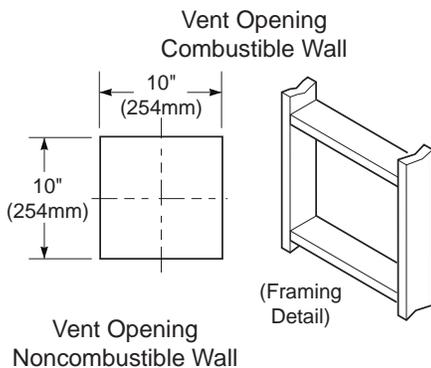
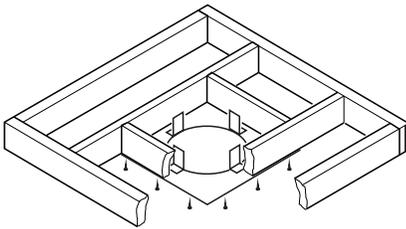

Figure 22 - Vent Opening Requirements
Figure 31 - Installing Firestop
For two-story applications, firestops are required at each floor level. If an offset is needed in the attic, additional pipe and elbows will be required (see Figure 31, page 15).
- Attach vent pipe assembly to the burner system. Set stove in front of its permanent location to insure minimum clearances. Mark the wall for a 10" square hole (for noncombustible material such as masonry block or concrete, a 7 1/2" diameter hole is acceptable). See Figure 22. The center of the hole should line up with the center-line of the horizontal rigid vent pipe. Cut a 10"x10" (254mm x 254mm) square hole through combustible exterior wall (7 1/2" [190mm] diameter hole if noncombustible). Frame as necessary (see Figure 22).
- Cut a 10" square hole in the ceiling using the locating hole as a center point. The opening should be framed to 10"x10" (254mm x 254mm) inside dimensions, as shown in Figure 22 on page 12 using framing lumber the same size as the ceiling joists. If the area above the ceiling is an insulated ceiling or a room, nail firestop from the top side. This prevents loose insulation from falling into the required clearance space. Otherwise, install firestop below the framed hole. The firestop should be installed with no less than three nails per side (see Figure 31, page 15).
- Cut a hole in the roof using the locating hole as a center point. (Cover any exposed open vent pipes before cutting hole in roof.) The 10"x10" hole must be measured on the horizontal; actual length may be larger depending on the pitch of the roof. There must be a 1" clearance from the vent pipe to combustible materials. Frame the opening as shown in Figure 22 on page 12.